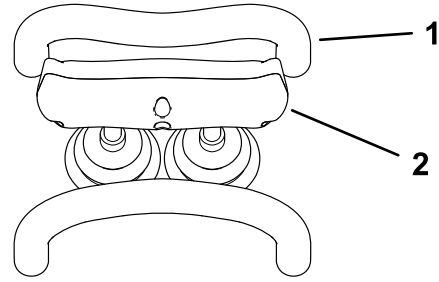

Figure 7
- To stop the machine, release the traction control (Figure 7).